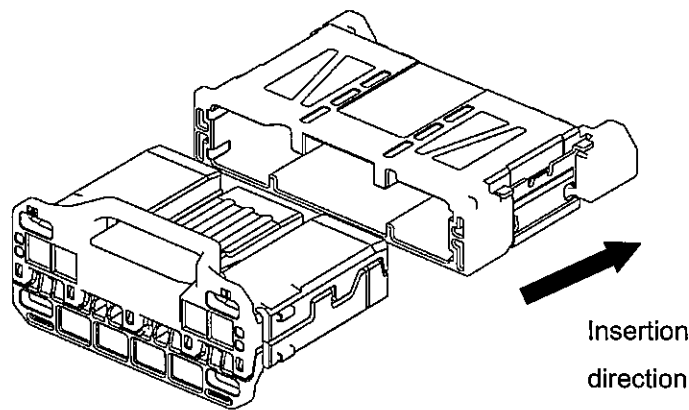

Fig.26
(3) Specified Female housing should be inserted straightly (Fig. 26).